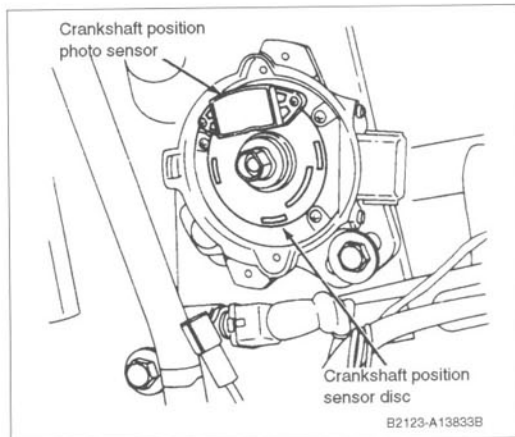

Fig. 2-12. MECS-II 2.2L/T, 1.3L and 1.8L ESA distributor includes sensors for CPS and CID.
1.8L and 1.3L engines use a slotted disc. A Light Emitting Diode (LED) shines through the slots to a photo sensor. This is sometimes called an optical system. See Fig. 2-12. The disc has one inner CID slot that generates 1 pulse for every two revolutions of the crankshaft. Another LED shines through the CID slot to a CPS photo sensor. On a disc that rotates once for